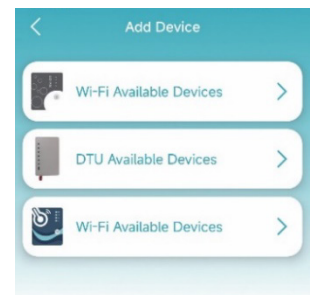

Fig. 6: Add Device Menu
1. To add your device, press the **+** button in the top right corner and then select the **BOTTOM** Wi-Fi option (Fig. 6).